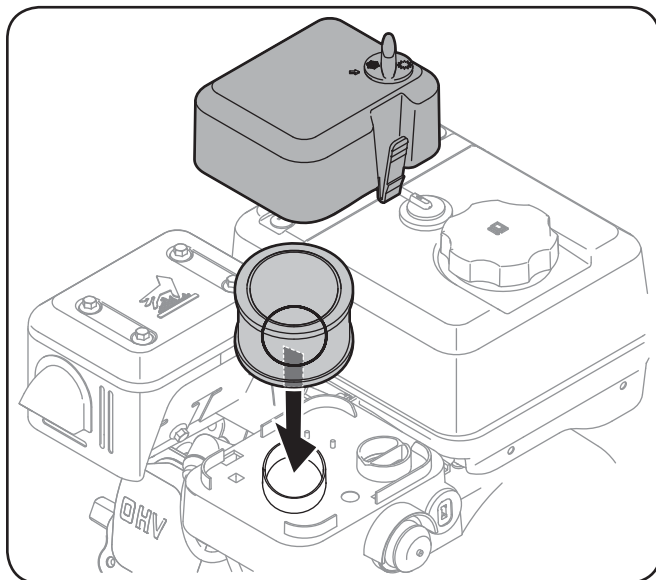

Figure 6-8
7. Replace the air filter element, then replace the air filter cover until the tabs on the cover click securely into place. See Figure 6-8.